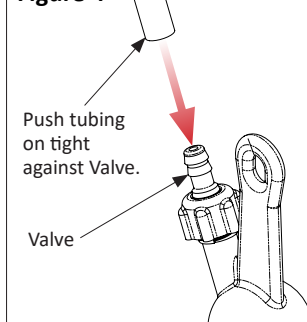
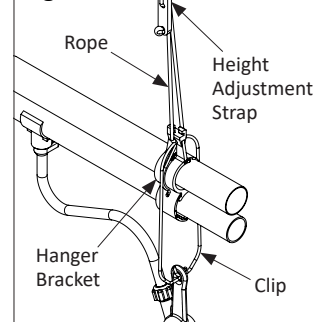

Figure 5
Figure 6
3. Hang in place using the clip (VTB170), rope (VD319), and height adjustment strap (VS341), as shown in Figure 5. Clip and height adjustment shown in Figures 6 and 7.